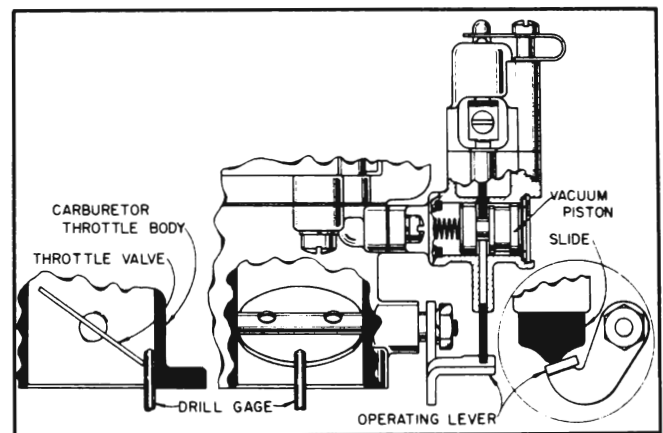

Figure 10-40—Setting Switch Timing with Carburetor Removed
2. Bend tang on switch operating lever until it just touches switch slide. See figure 10-40.